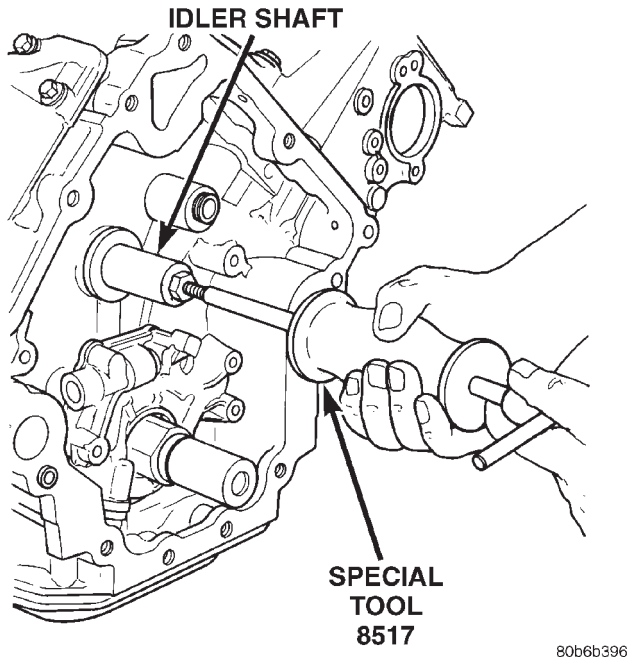

Fig. 76 Removing Idler Shaft
- (4) Using Special Tool 8517 Slide Hammer, remove the idler shaft (Fig. 76).